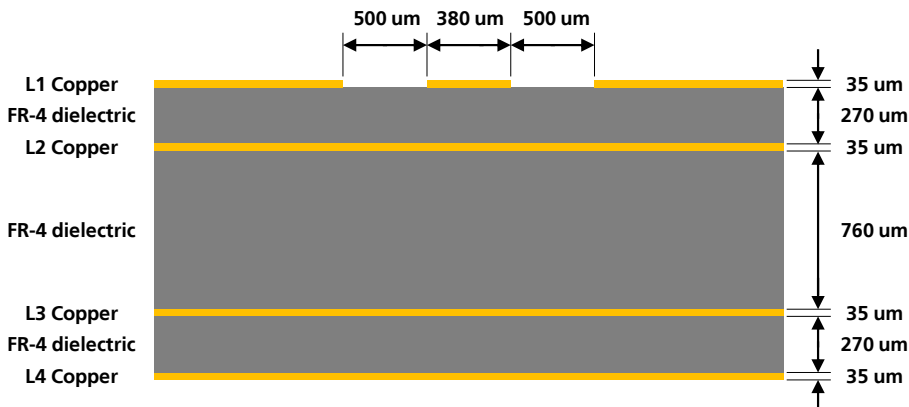
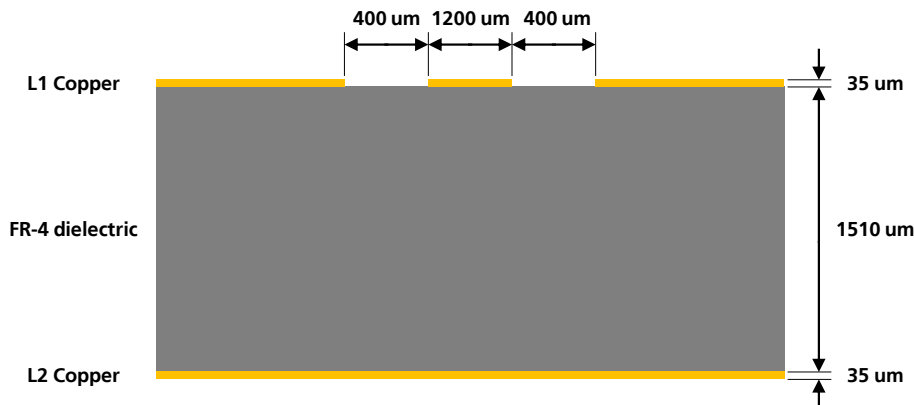

Figure 35: Example of 50 Ω coplanar waveguide transmission line design for the described 4-layer board layout
Figure 36: Example of 50 Ω coplanar waveguide transmission line design for the described 2-layer board layout
Figure 35 and Figure 36 provide two examples of proper 50 Ω coplanar waveguide designs: the first transmission line can be implemented in case of 4-layer PCB stack-up herein described, the second transmission line can be implemented in case of 2-layer PCB stack-up herein described.
- the thickness of the transmission line itself (e.g. 35 μm in the example of Figure 35 and Figure 36)
- the thickness of the dielectric material between the top layer (where the transmission line is routed) and the inner closer layer implementing the ground plane (e.g. 270 μm in Figure 35, 1510 μm in Figure 36)
- the dielectric constant of the dielectric material (e.g. dielectric constant of the FR-4 dielectric material in Figure 35 and Figure 36)
- the gap from the transmission line to the adjacent ground plane on the same layer of the transmission line (e.g. 500 μm in Figure 35, 400 μm in Figure 36)